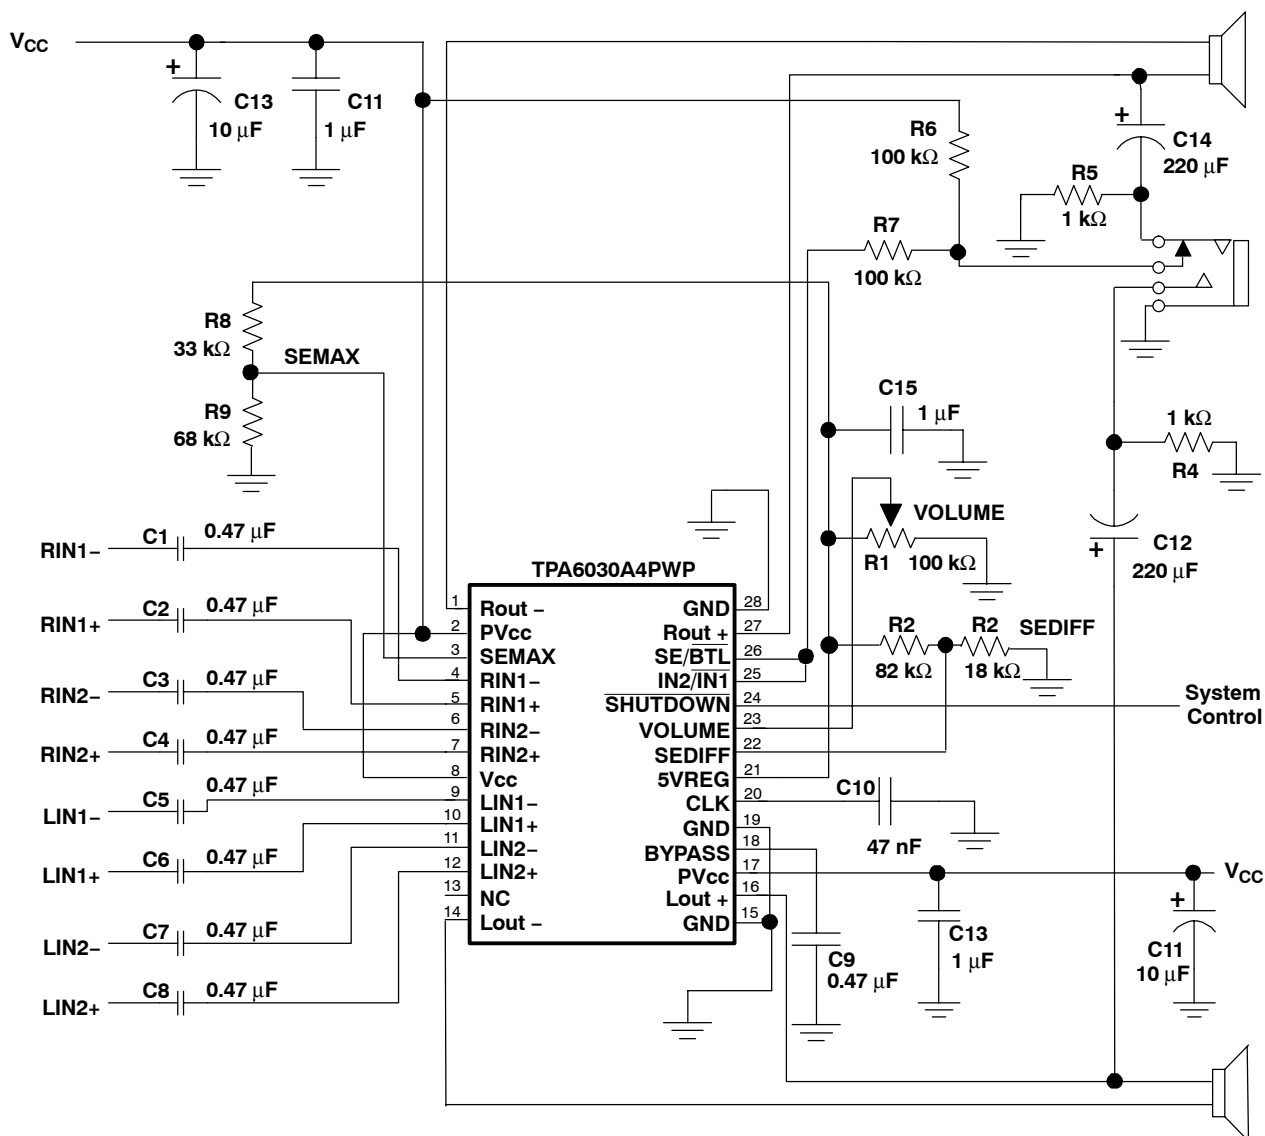

Figure 22. Typical Application Circuit for an LCD Monitor
The circuit shown in Figure 22 automatically switches between headphone outputs and speaker outputs when a headphone plug is inserted or removed from the headphone jack. Additionally, this circuit uses resistor divider networks to limit the headphone volume. Resistors R8 and R9 form a divider network that applies 67% of 5VREF to the SEMAX pin, which results in a maximum output of 7.2 dB. Resistors R2 and R3 form a divider network that applies 18% of 5VREF to the SEDIFF pin.
Using a readily available 1/8-in. (3,5 mm) stereo headphone jack, the control switch is closed when no plug is inserted. When closed, the parallel combination of R5 and R7 (see Figure 22) pulls the SE/BTL pin low(1), causing the device to operate in BTL mode. When a plug is inserted, the 1-kΩ resistor is disconnected and the SE/BTL input is pulled high(1). When the input goes high(1), the negative output amplifiers go into a state of high impedance, essentially open circuiting the speaker. The positive output amplifiers then drive through the output capacitor (CO) into the headphone jack.
In some applications, it may be desirable to have one input specifically for BTL operation and one input specifically for SE operation. This is accomplished by tying the  $\text{SE}/\overline{\text{BTL}}$  and  $\text{IN2}/\overline{\text{IN1}}$  pins together and connecting them to a common control voltage. An example of this type of configuration can be found in Figure 22. The two pins are tied together and are connected to the resistor divider network. That network is connected to the stereo headphone jack, and is closed when no plug is inserted. This pulls both the  $\text{IN2}/\overline{\text{IN1}}$  and  $\text{SE}/\overline{\text{BTL}}$  pins low, causing the amplifier to go into BTL mode using the  $\text{IN1}$  ( $\text{RIN1}$  and  $\text{LIN1}$ ) inputs. Should a headphone plug be inserted into the headphone jack, both inputs would be pulled high, and the amplifier would be in SE mode using the  $\text{IN2}$  inputs.